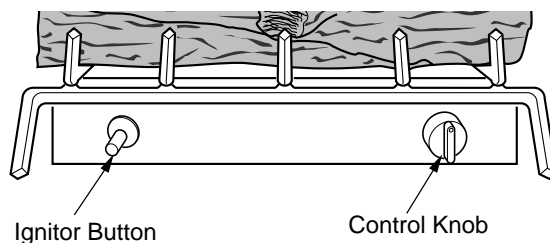

Figure 25 - Control Knob and Ignitor Button Location
4. Wait five (5) minutes to clear out any gas. Then smell for gas, including near the floor. If you smell gas, **STOP!** Follow "B" in the safety information, column 1. If you don't smell gas, go to the next step.
5. Turn control knob counterclockwise  to the PILOT position. Press in control knob for five (5) seconds (see Figure 25).